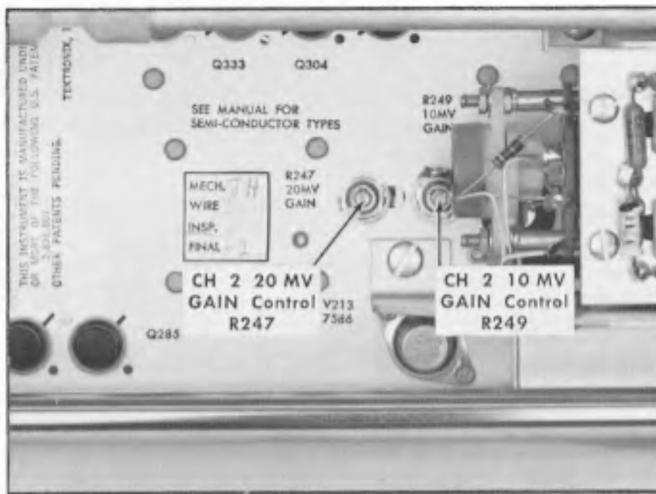

Fig. 7-13. Location of CH 2 10 MV GAIN and 20 MV GAIN controls.
- e. Adjust—20 MV GAIN control, R247 (see Fig. 7-13) for minimum display amplitude (1.25 minor divisions or less).
- i. Adjust—10 MV GAIN control, R249 (see Fig. 7-13) for minimum display amplitude (1 minor division or less).